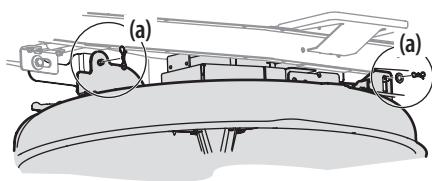

Figure 30
5. Remove the remaining bow-tie cotter pins (a) securing the deck to the riding mower, as shown in Figure 30.